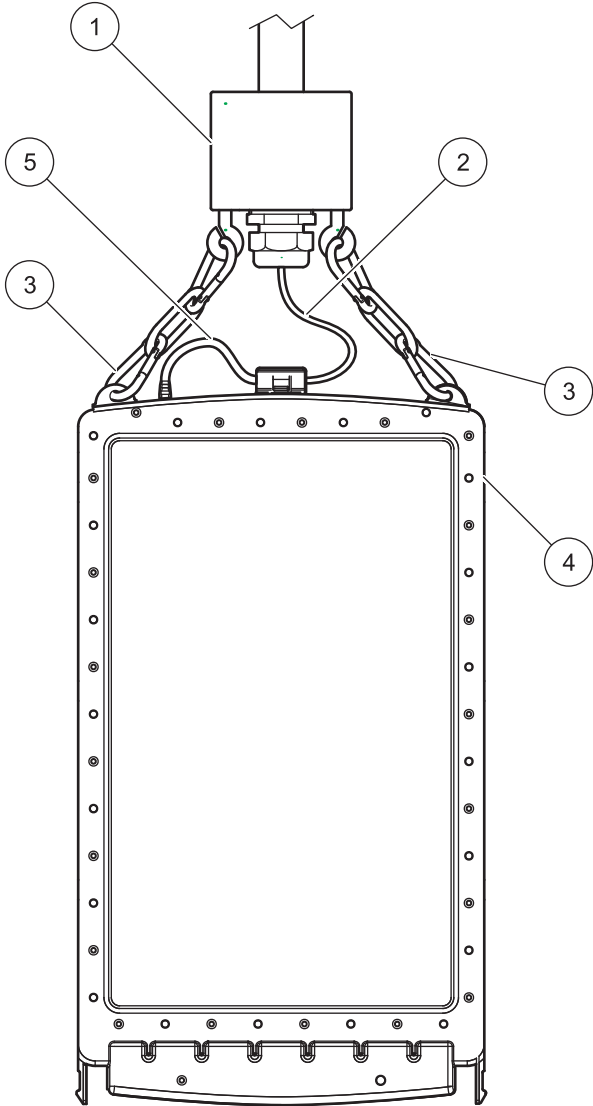

Figure 3 Filter module design
The filter module (refer to Figure 3, item 4) is immersed with a module carrier (refer to Figure 3, item 1) at the sample location with an optional basin edge attachment. The filter module has a filter membrane covering both sides. This membrane is used to suck in and filter the waste water sample, and then feed it to the control unit.